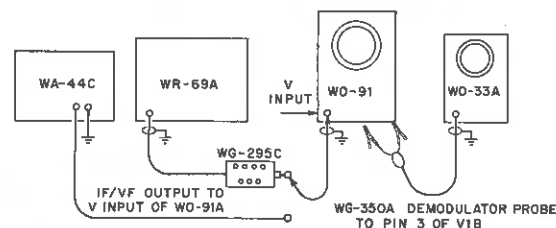

Figure 22. Test setup for alignment of vertical amplifier
12. Connect the test equipment as shown in Figure 22. Set the SYNC-H SEL control to "LINE". Adjust the H GAIN control for approximately 3 inches of horizontal deflection.